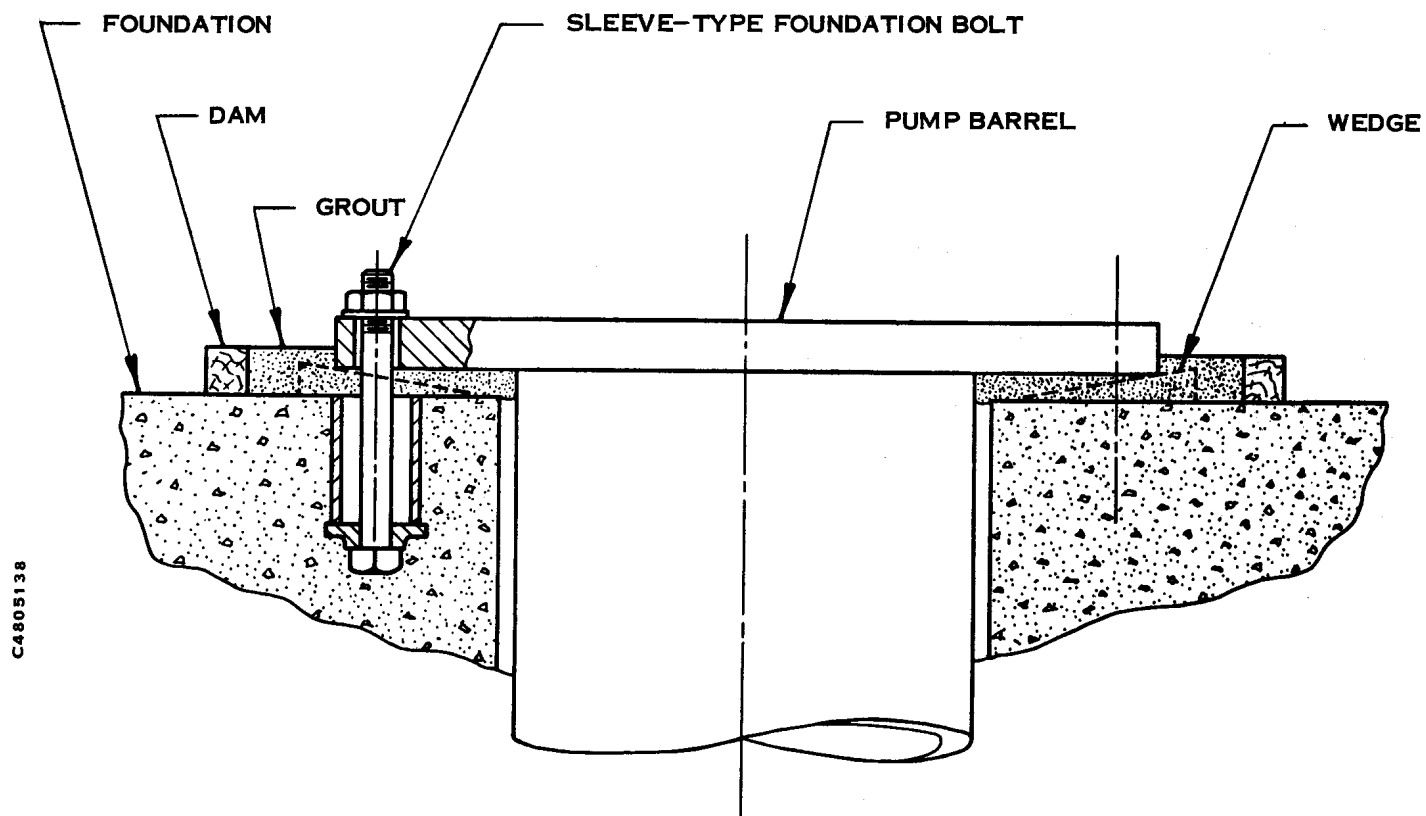

Fig. 3-1. Foundation bolt and grouting details
A. The pump must be installed on a foundation rigid enough to support the entire weight of the pump plus the weight of the fluid contained in it. If the pump has a below-base suction inlet, a suitable opening must be provided in the foundation to accommodate it. Foundation bolts must be provided to firmly anchor the pump to its foundation. Be sure that the foundation bolts are properly oriented with respect to the suction and discharge piping. Sleeve-type foundation bolts are recommended because they allow some flexibility in the final positioning of the discharge head. (See Fig. 3-1). If the foundation is concrete, grout will be forced between the pump barrel flange and the foundation after the pump is installed and properly leveled. Instructions for doing this are given in Section 4.
Build a frame or dam on the foundation, enclosing an area which includes all of the leveling wedges. The top of the dam should be approximately 1/2 inch above the bottom of the discharge head base. (See Fig. 3-1.) Pour the grouting material into the dammed-in area and force it between the discharge head and the foundation all around. Level off the grout flush with the top of the dam. Allow the grout to cure at least 48 hours before installing the pump.